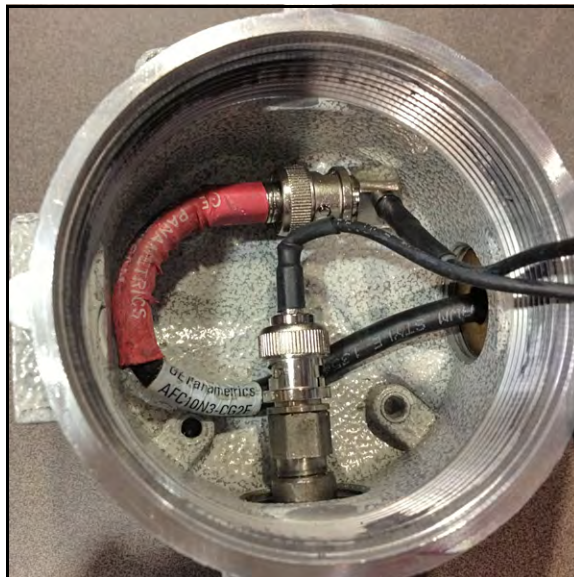

Figure 13: BNC Heads
7. Wrap the extra length of cable around the perimeter of the junction box such that the BNC heads do not rest on other cables or on each other. An image of this is shown in *Figure 13* below.